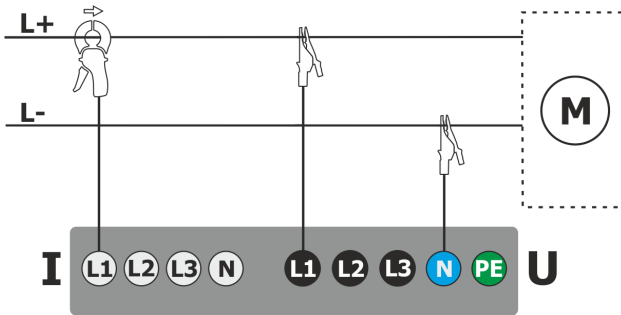

Fig. 65. Wiring diagram – DC system.
- DC – one-voltage DC system (Fig. 65)